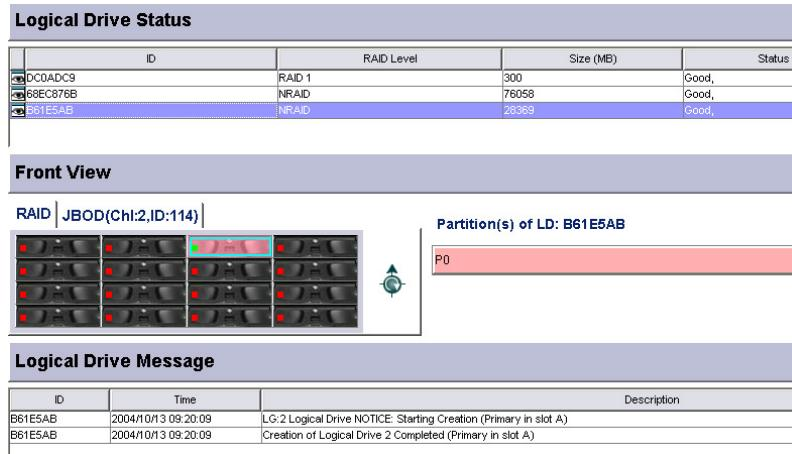

Figure 6-18: Logical Drive information
The **Logical Drive Information** window (shown in *Figure 6-18*) provides the configuration, management, and monitoring functions available in RAIDWatch. The Logical Drive View window includes three (3) sub-windows: Logical Drive Status, Front View, and Logical Drive Message.